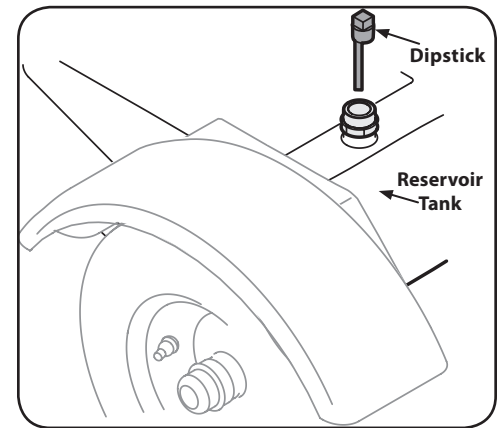

Figure 3-9
- Remove the dipstick, which is located in front of the engine on top of the reservoir tank. See Figure 3-9
- Check the fluid level using the dipstick. See Figure 3-9. Do not overfill.